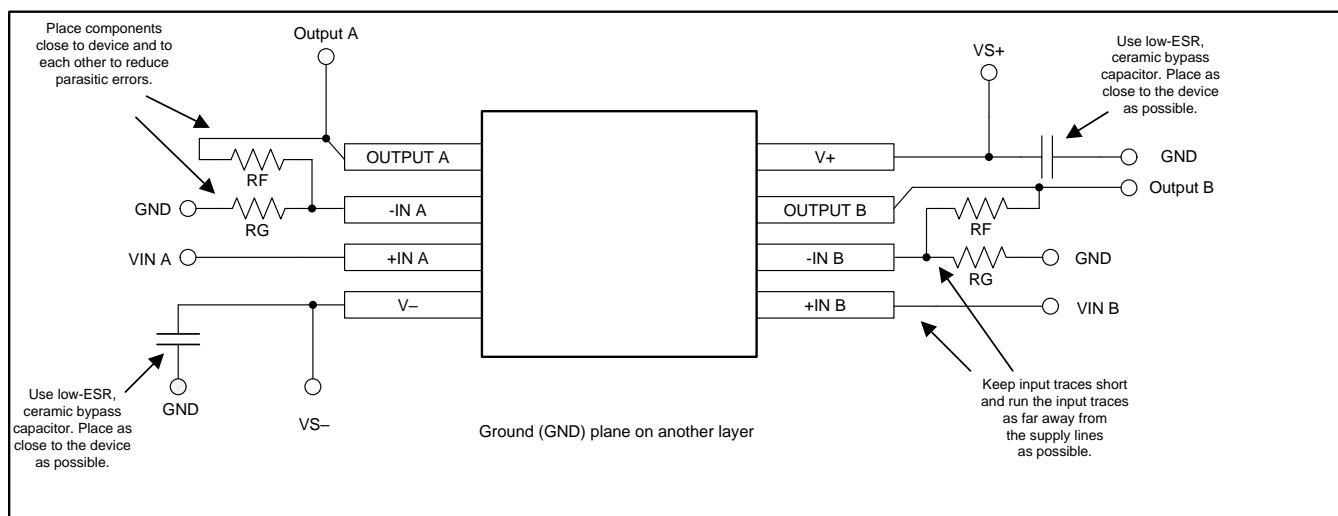

Figure 50. Operational Amplifier Board Layout for Noninverting Configuration
- Place the external components as close to the device as possible. As shown in Figure 50, keeping RF and RG close to the inverting input minimizes parasitic capacitance.